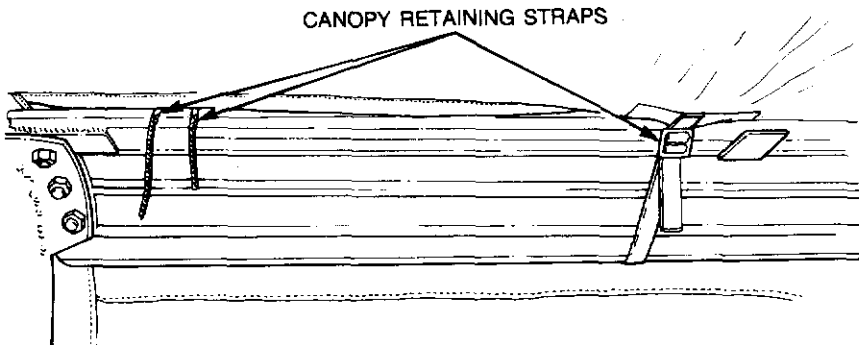

Figure 2-6 Canopy retaining straps
- b. Starting at the front, tighten all the straps securing the canopy to the bow support frames (see Fig. 2-6).